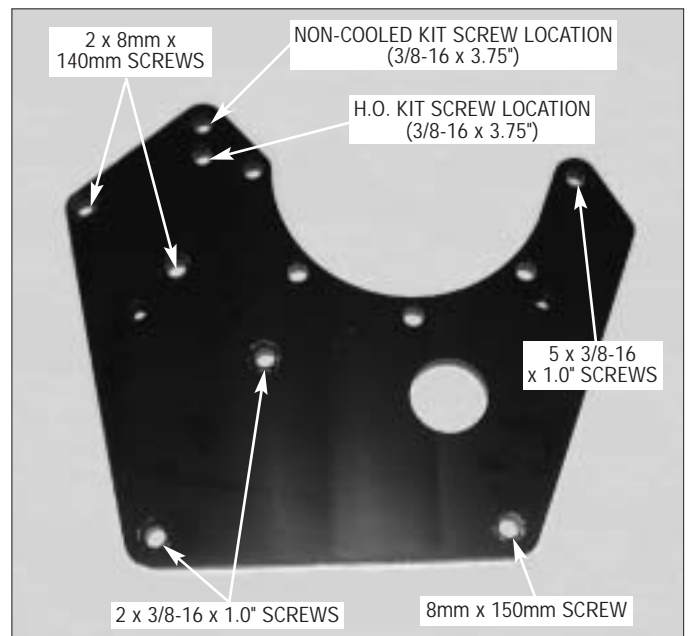

Fig. 7-c
- F. Slide the two 2.691" long spacers onto the bolts previously installed. (See Fig. 7-f.) Install the small triangle-shaped idler pulley mounting bracket to the spacers. Install the .097" spacer onto the bolt that will be attached in the alternator location.